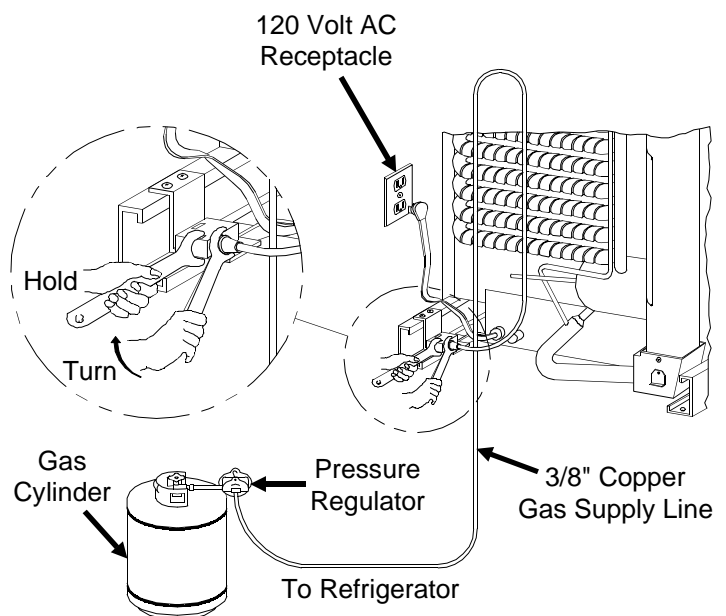

Figure 3
Provide an adequate length of gas supply tubing for connecting the refrigerator to the main gas supply tank. Additional tubing is required at the rear of the refrigerator (Figure 3) to allow the refrigerator to be pulled several feet from the wall for cleaning, maintenance, and burner flame inspection.
**To prevent gas leaks and damage to the gas supply tubing, use two wrenches when connecting gas fittings, as illustrated in Figure 3.**